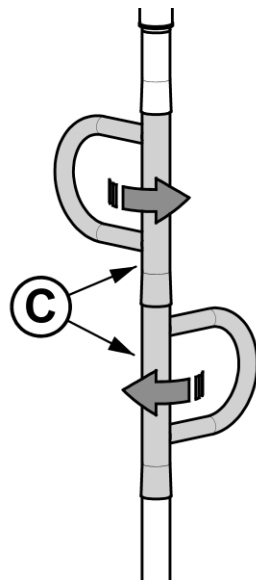

FIGURE 4
4. Ensure that both Handles **C** are oriented as desired by rotating as shown in *FIGURE 4*.